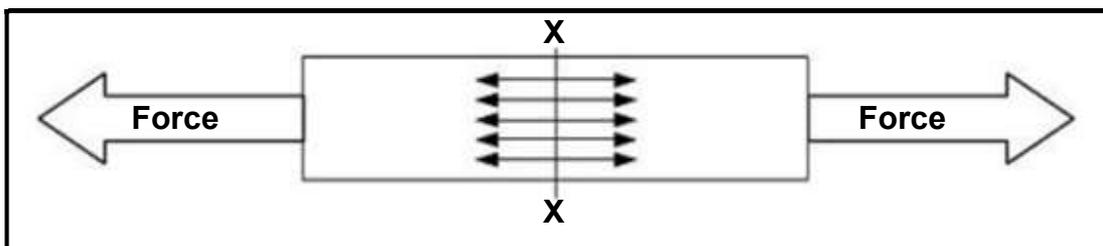

FIGURE 4.8
4.7 Describe the type of stress caused in the material as shown in FIGURE 4.8 below.